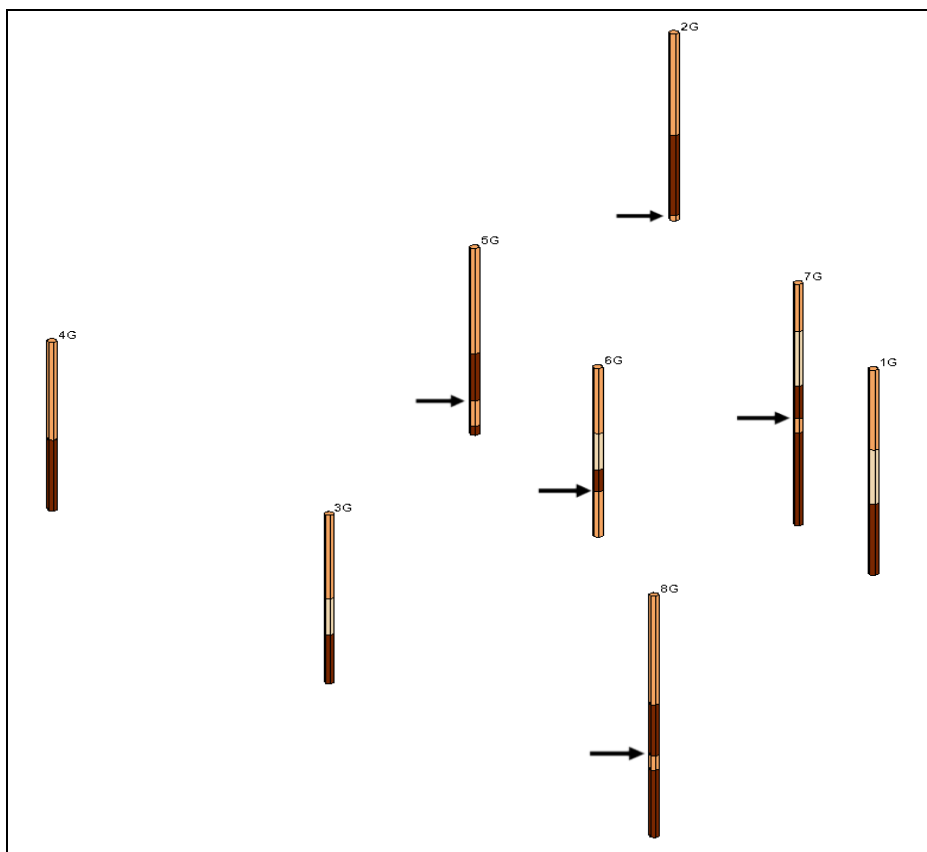

Figure 5 Contacts for Horizon 2
6. Using the **Select Contacts**  tool and the *Shift* key, select the borehole contacts shown in Figure 5.